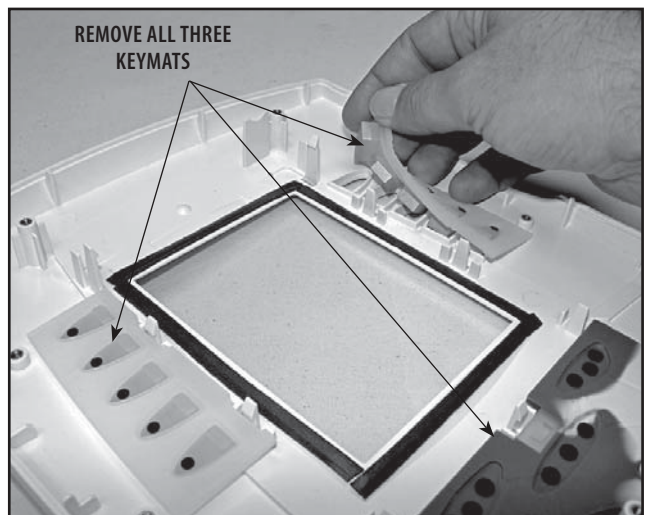

FIGURE 6.30
6. Remove Keymats from the System Top. See Figure 6.30.